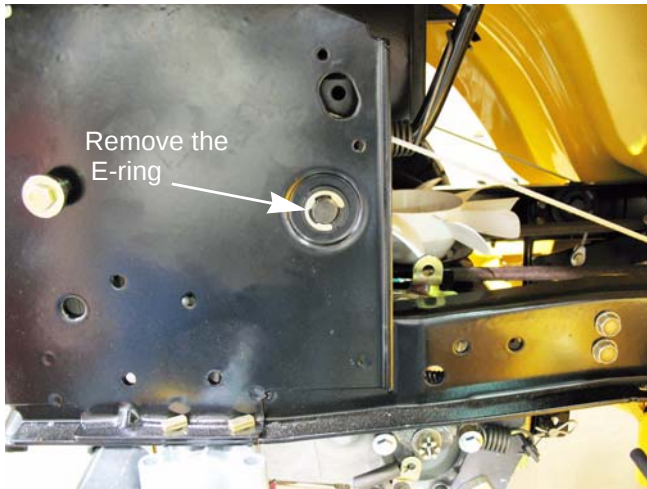

Figure 8.31
2. Remove the E-ring that retains the lift shaft bushing. See Figure 8.31.